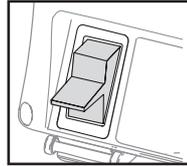

Fig. 14
7. Switch off the unit. (Fig. 14)